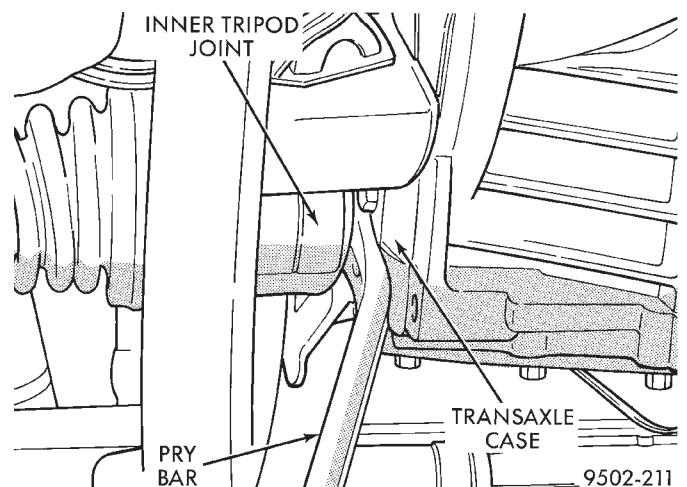

Fig. 12 Disengaging Inner Tripod Joint From Transaxle
(15) Support the outer end of the driveshaft assembly. Insert a pry bar between inner tripod joint and transaxle case (Fig. 12). Pry against inner tripod joint, until tripod joint retaining snap ring is disengaged from transaxle side gear.